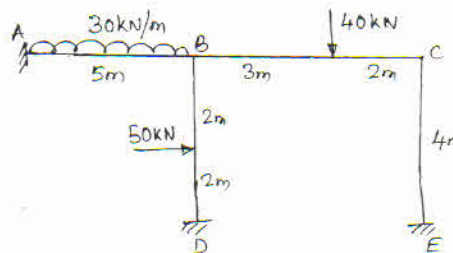

Fig Q3
3. Analyse the frame shown in Fig Q3. Using moment distribution method sketch BMD. Take EI constant throughout. (20 Marks)